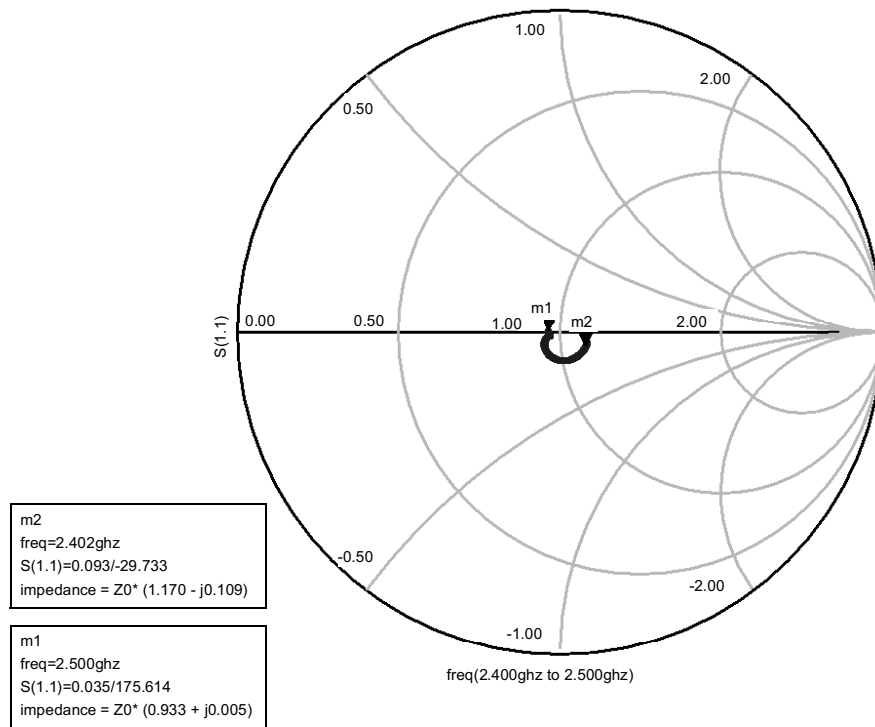

Figure 8. TX and RX Pin 50Ω Impedance Characteristics
- Reference Smith Chart Figure 8 on page 13.
7. Reference Smith chart Figure 8 on page 13.